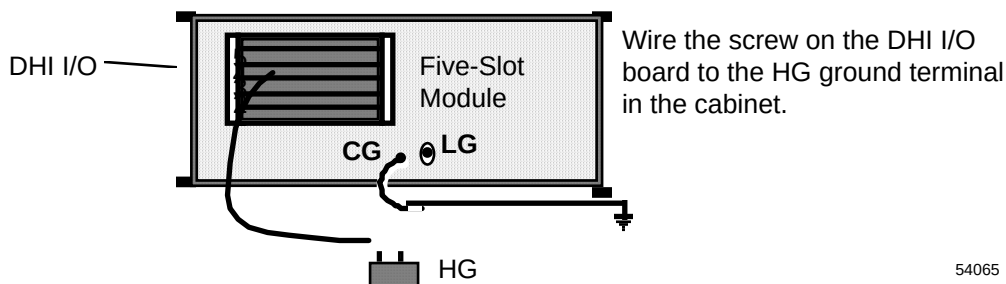

Figure 4-2 Logic Ground (LG) Connection to Safety ground Terminal
- Logic Ground—in an HG on a Data Hiway that does not have an HTD (see Figures 4-2 and 4-3).